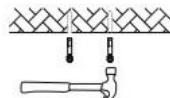

Figure 2
2. Use a hammer to insert expansion screws into the holes (Figure 2).